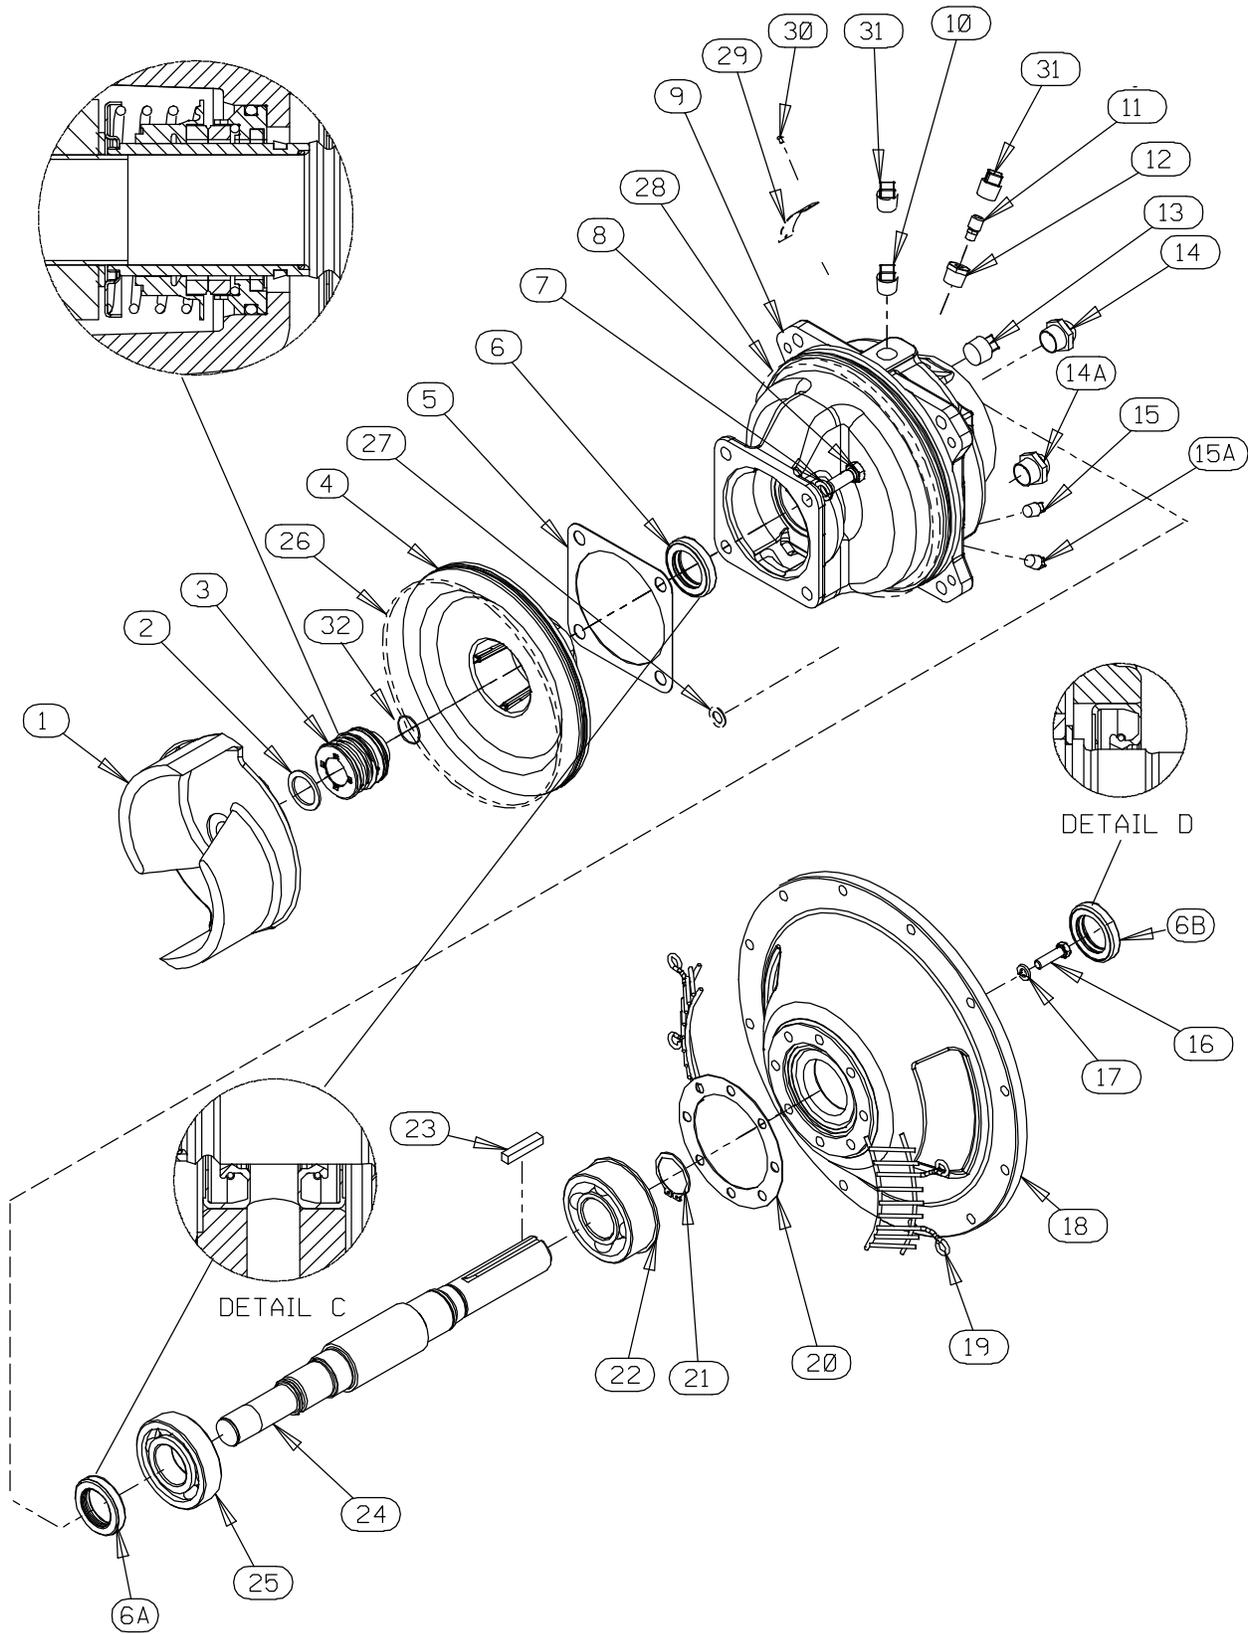

Figure 4. 44163-347 Repair Rotating Assembly
Disengage the hardware (6 and 7) securing the drive flange to the engine bellhousing, and remove the guards (24, Figure 4). Separate the pump end and drive assembly from the engine by pulling the pump end straight away from the engine.
As the assemblies separate, the flexible portion of the coupling assembly (3) will remain on the shaft. To remove the coupling from the shaft, unscrew the two allen head setscrews from the bushing (2). Screw one of the setscrews into the puller hole on the circumference of the bushing. As the coupling and bushing separate, remove the bushing, and slide the coupling off the shaft. Remove the shaft key (16, Figure 4).